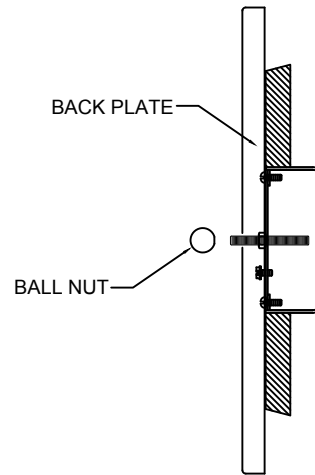
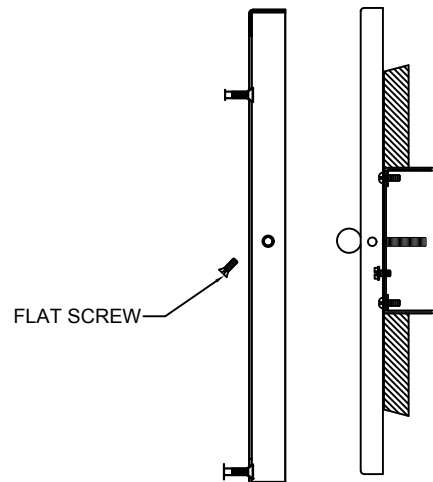

FIGURE-02
FIGURE-03
5. Attach the backplate to the mounting ring secure it with center ball nut. (See Figure-02) then attach the fixture on the backplate fasten it with flat head screw.(See Figure-03)